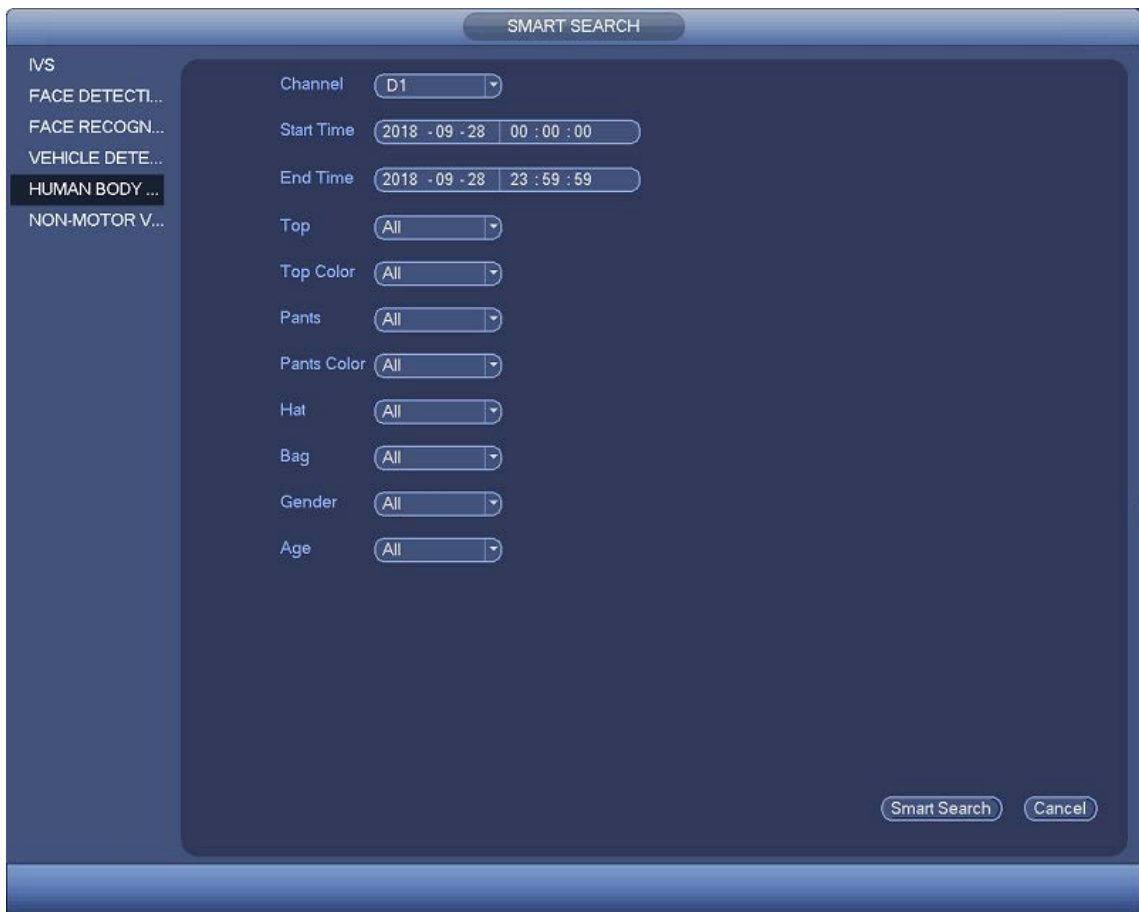

Figure 4-107
Step 5 Select the corresponding record and click  to play this record. See Figure 4-107.